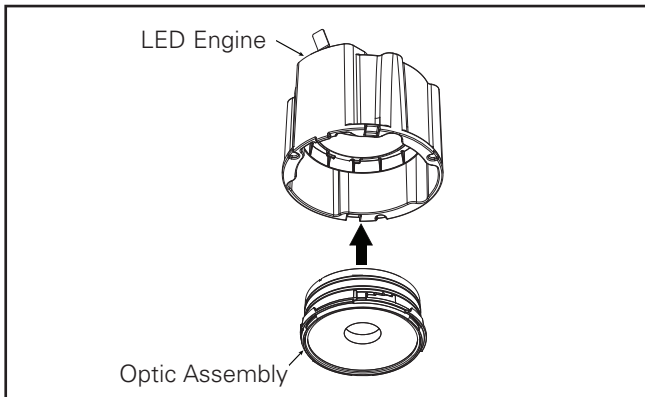

Figure 15
3. Insert optic assembly into LED engine holder and align it with opening slots on the LED engine's holder. (Figure 15)